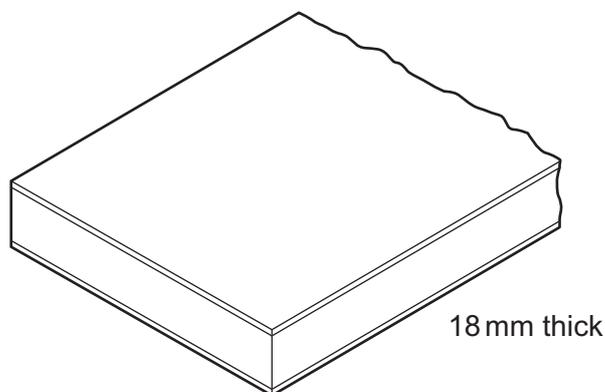

Fig. 2.1
- 2 Complete Fig. 2.1 to show the construction of blockboard.